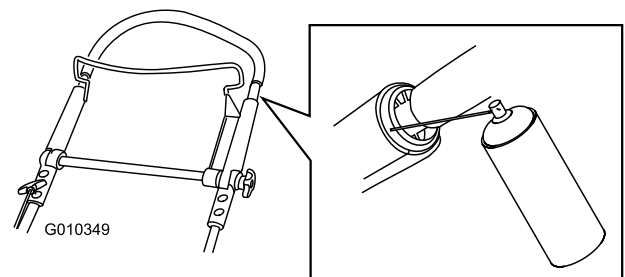

Figure 41
1. Spray the outer plastic end of the inner handle (Figure 41).